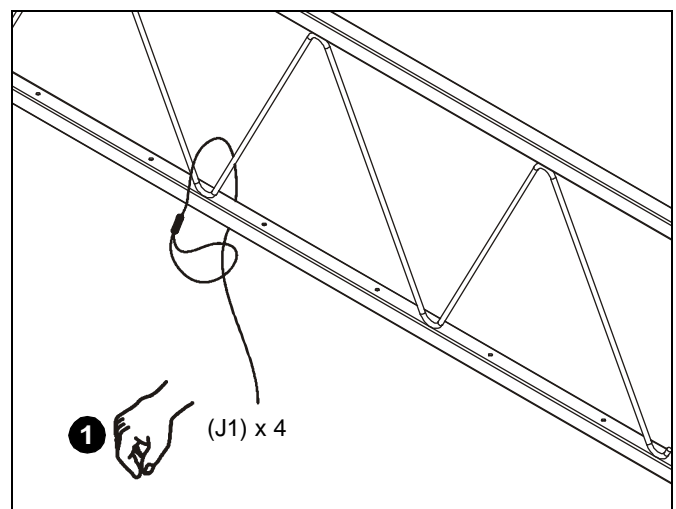

Figure 6
1. Route end of cable (J1) over truss at marked cable anchor support location and then through cable loop. Repeat for 3 remaining support locations. (See Figure 6)